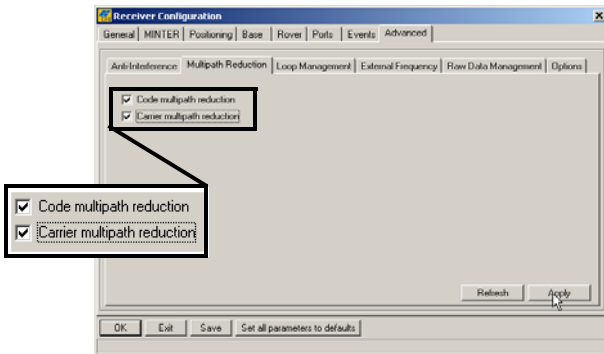

Figure 3-15. Configure Multipath Parameters
12. Click the *Advanced* tab and then the *Multipath* tab. Set the following parameters and click **Apply** (Figure 3-15 on page 3-19).